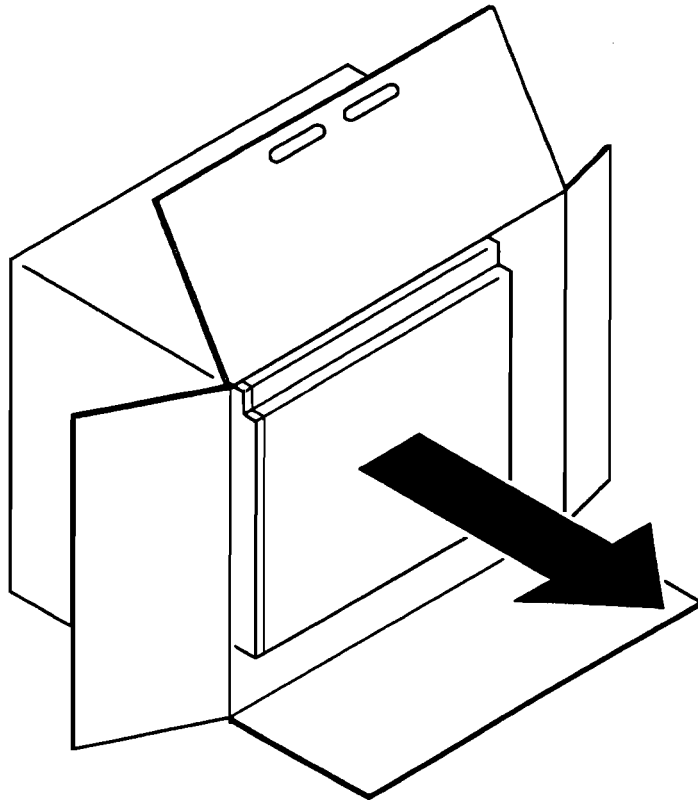

Figure 2-5. Removing Computer From Box
5. Remove your computer from the box by pulling it from side to side as shown in figure 2-5.